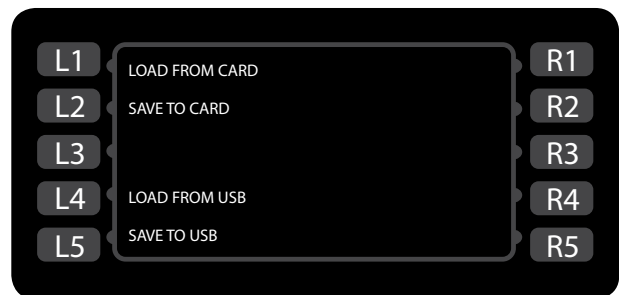

Figure 27: Load Menu Screen
From screen 2 of the INFO MODE (Figure 21, page 14), press the R1 soft key to access the “Load Menu” screen (Figure 27).
2. Press the L1 soft key (Figure 27).
4. Press the L4 soft key (Figure 27).
2. Press the L2 soft key (Figure 27).
2. Press the L5 soft key (Figure 27).